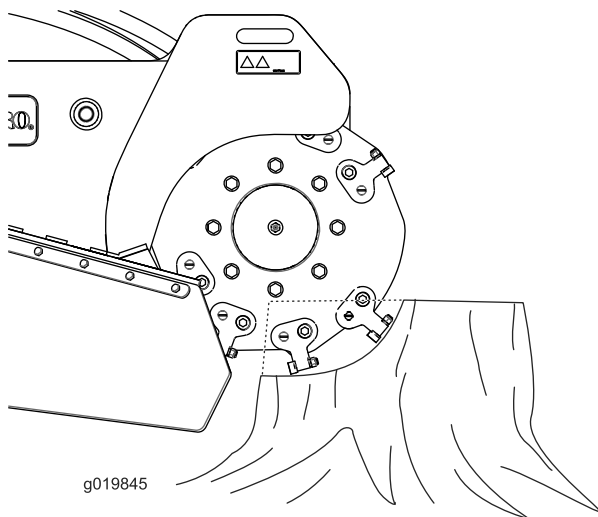

**Figure 21**
4. Using the grinder control lever, swing the grinder slowly across the face of the stump, cutting away a swath of chips (Figure 21).
- Cut the edges of the stump for more efficient grinding. Once your cutting swath is close to 1/4 of the wheel diameter (Figure 21), lift the grinder, move forward and begin cutting on the edge again.